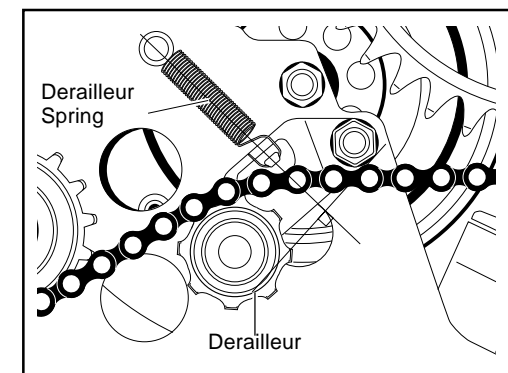

Fig. 6
4. Set the derailleur spring to the pawl of the derailleur to give tension to the chain. (Fig. 6)
5. Adjust the position of the workload unit so that the tension of the chain at the workload unit can be adequate. Move the workload unit back and forth so that the longer edge of the derailleur fixing metal base can be positioned at a right angle to the derailleur spring. (Fig. 6)